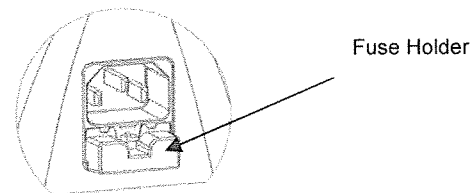

Figure 2
1. Using your finger release the fuse holder on the power outlet by pushing downward on the tab and pulling outward. Place the fuse holder aside. See Figure 2.